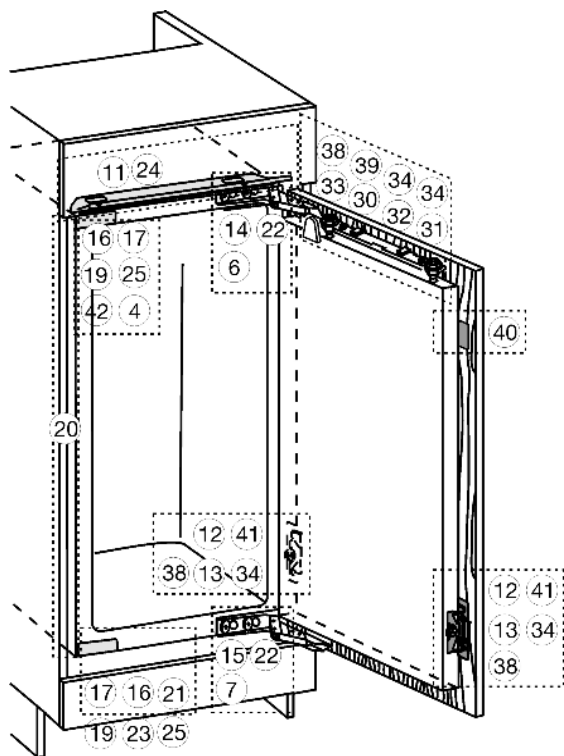
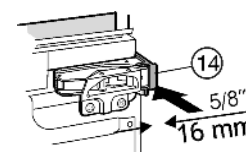
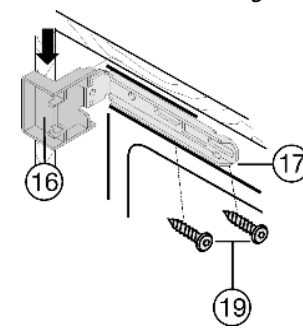
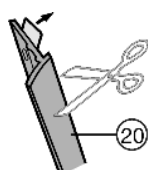

Fig. 11
Fig. 17
Fig. 18
Fig. 19
- Remove covers Fig. 11 (4, 6, 7).
- Clip spacer Fig. 17 (14) and spacer Fig. 11 (15) onto the hinge.
- Place the covers Fig. 18 (16) top and bottom onto the mounting brackets Fig. 18 (17).
- Fasten the mounting brackets Fig. 18 (17) on top with screws Fig. 18 (19) and on the bottom with Screws Fig. 11 (19) such that the bracket still has a slight bit of play to the left and right.
- ▶ Remove the protective film from the trim *Fig. 19* (20).
- ▶ Place the trim *Fig. 19* (20) on the flange of the cover *Fig. 18* (16), on the handle side and flush with the front, and adhesively affix it to the side wall of the appliance.
- ▶ If necessary, shorten the trim *Fig. 19* (20) at the bottom: The trim *Fig. 19* (20) must end 1/8 " (3 mm) above the upper edge of the bottom mounting bracket *Fig. 11* (17).
- ▶ Slide the appliance in until it contacts *Fig. 18* (16) the covers *Fig. 18* on the side wall of the unit.
- ▶ Note the additional space needed (for depth of door stop components): Allow the hinges and covers *Fig. 18* (16) to protrude by the additional distance.
- ▶ Adjust the adjustable feet with the supplied open-ended wrench *Fig. 11* (21) to align the appliance vertically.